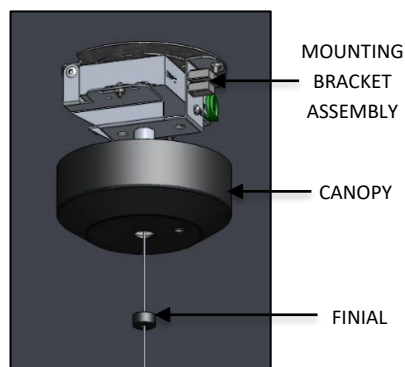
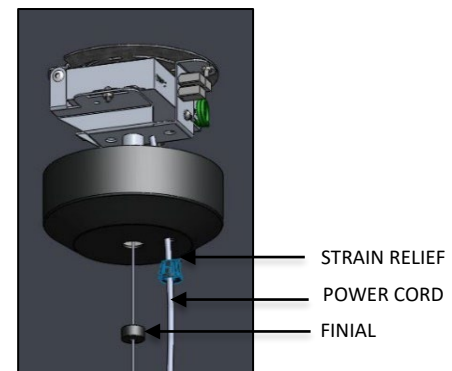

FIG. 12 – CANOPY DIS-ASSEMBLY
FIG. 13 – CORD INSTALLATION
7. Once the KWYET FIXTURE is secured to the AIRCRAFT CABLE at the GRIPLOCK, unthread the FINIAL from the MOUNTING BRACKET ASSEMBLY and lower the CANOPY as shown below in FIG. 12. And feed POWER CORD through the 2ND hole in the CANOPY and DRIVER MOUNTING BRACKET as shown below in FIG.13